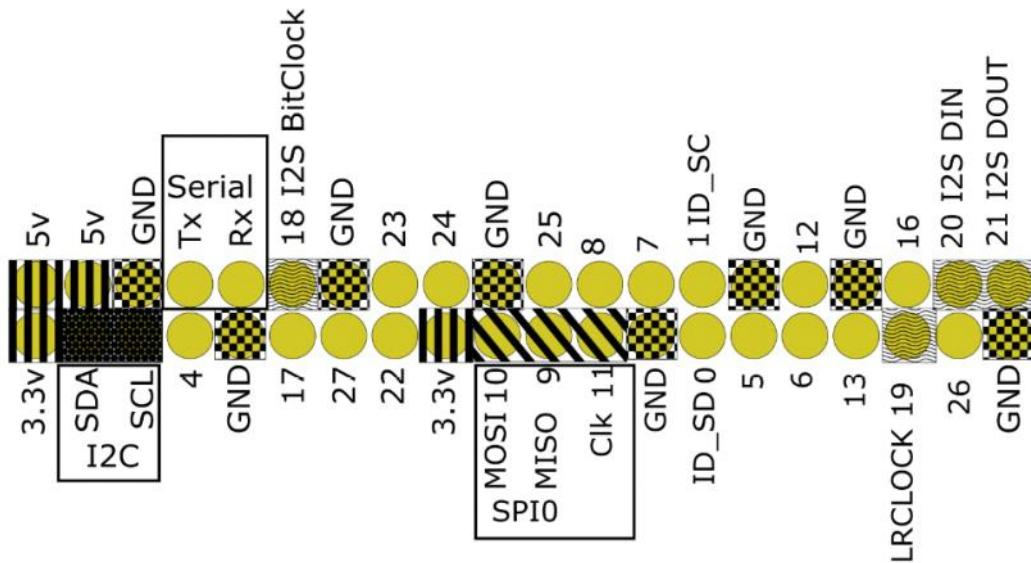

Figure 3.2 – The Raspberry Pi GPIO port (B+, 2, 3, 3B+, Zero, and Zero W)
*Figure 3.2* shows a close-up of the GPIO port with the names and uses of some of the pins. This is where we will connect most of our sensors and motors. External devices can be attached to **SPI**, **I2C**, **Serial**, and **I2S** data buses, or to digital I/O pins.
Why are the numbers mixed up? The numbers used in most Raspberry Pi documentation are BCM numbers, which correspond to pins on the main Broadcom chip. Use *Figure 3.2* for reference.